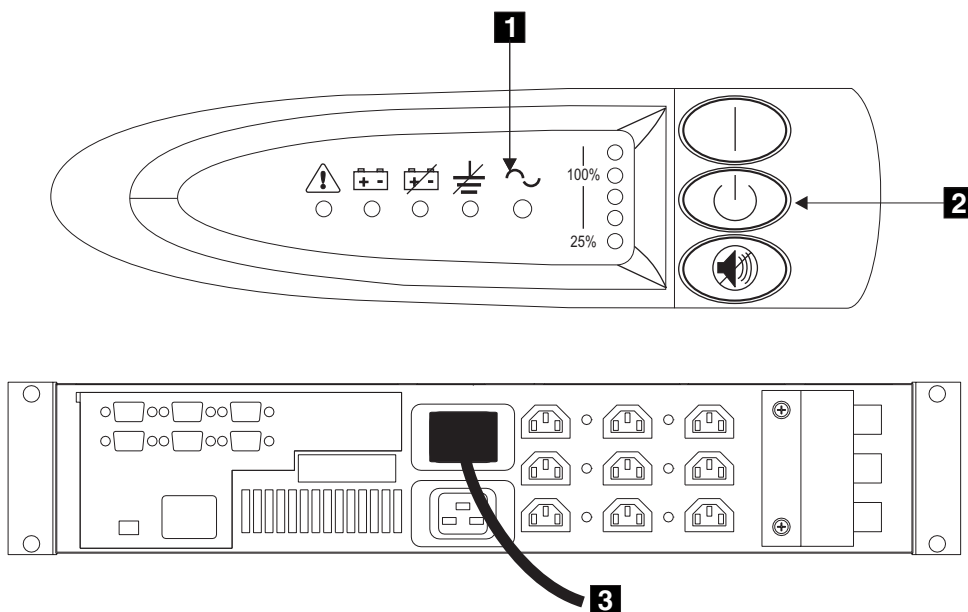

Figure 264. Front and back view of the 2145 UPS
2. Press and hold the off switch **2**. A long beep sounds for approximately five seconds. When the beep stops, release the switch. The mode indicator **1**, shown in Figure 264, flashes and the 2145 UPS enters standby mode.